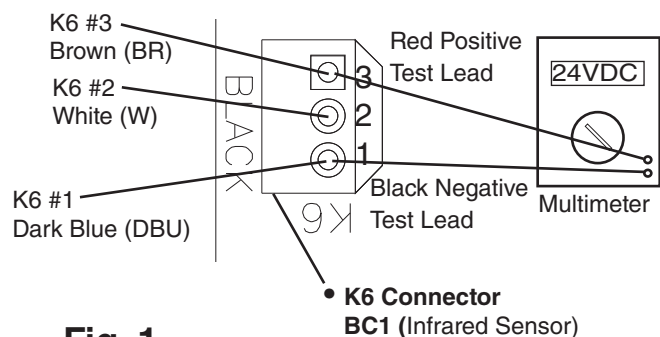

Fig. 1
- 3a) **N-2 Auxiliary Code - BC1 (infrared sensor) Power Supply (K6 connector):** CB supplies 24VDC to BC1 and BC1 green LED is on. **Diagnosis:** Check that BC1 green LED is on. If not, check for 24VDC between CB K6 #1 (DBU) and CB K6 #3 (BR). See Fig. 1. If 24VDC is not present, replace CB. If 24VDC is present, confirm that the orange LED is not flashing or steady. If BC1 orange LED is on or flashing, move ice away from lens. If no ice is present, clean the lens with a warm, clean damp cloth. If cleaning the lens does not work, replace BC1 (infrared sensor).